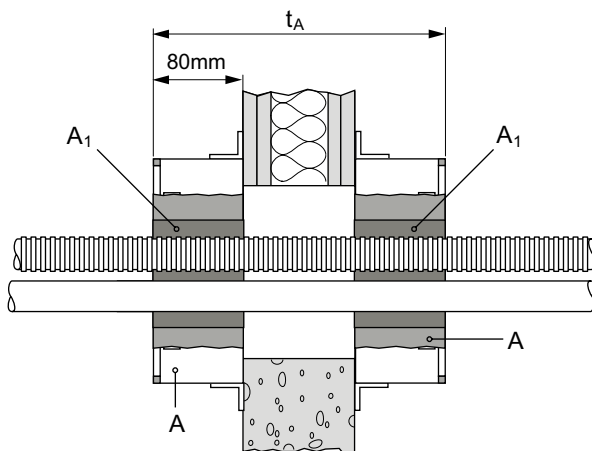

Fig. 2: Seal type:
The penetration seal comprises a wall/floor and two Hilti cable collars (A) in which all visible Polyurethane inlay (up to the corner profile of the metal housing) is replaced with Hilti CFS-F FX firestop foam A_1 . (fig. 2)